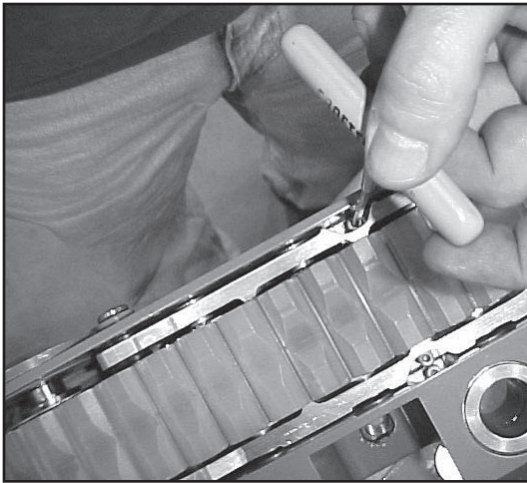

Figure 20
6. Tighten two idler assembly retaining screws (Figure 20)